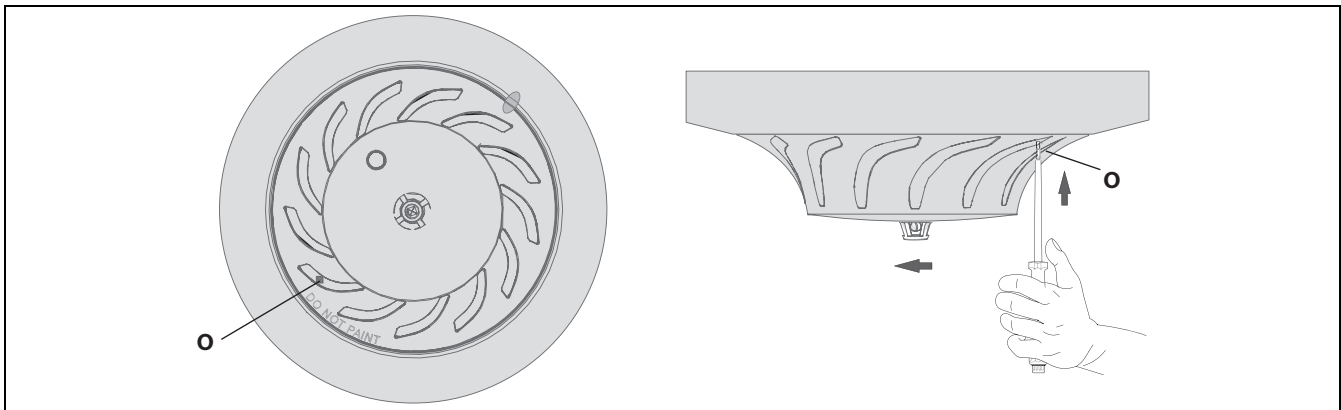

Figure 3.3 Releasing the Detector
Release the locked detector head by pushing hard through the dimple (O) on the detector's outer rim with a screwdriver (see *Figure 3.3*) and at the same time, turning the detector head to the left.